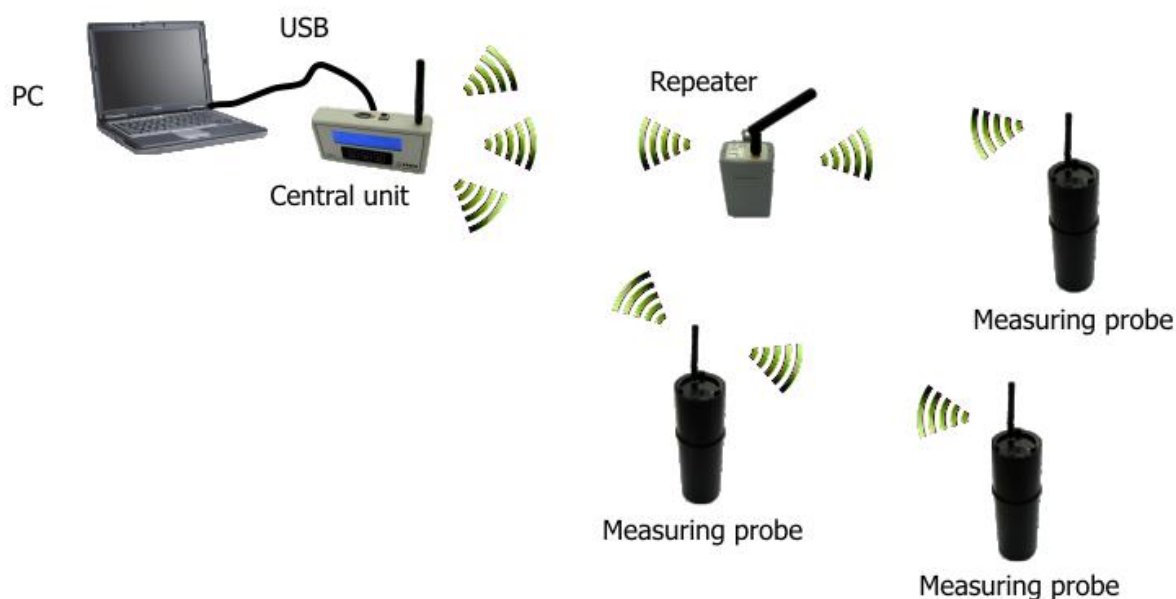

Figure 1 - TERA System for Radon Concentration Measurement
- A) TERA System for Radon Concentration Measurement (Figure 1)